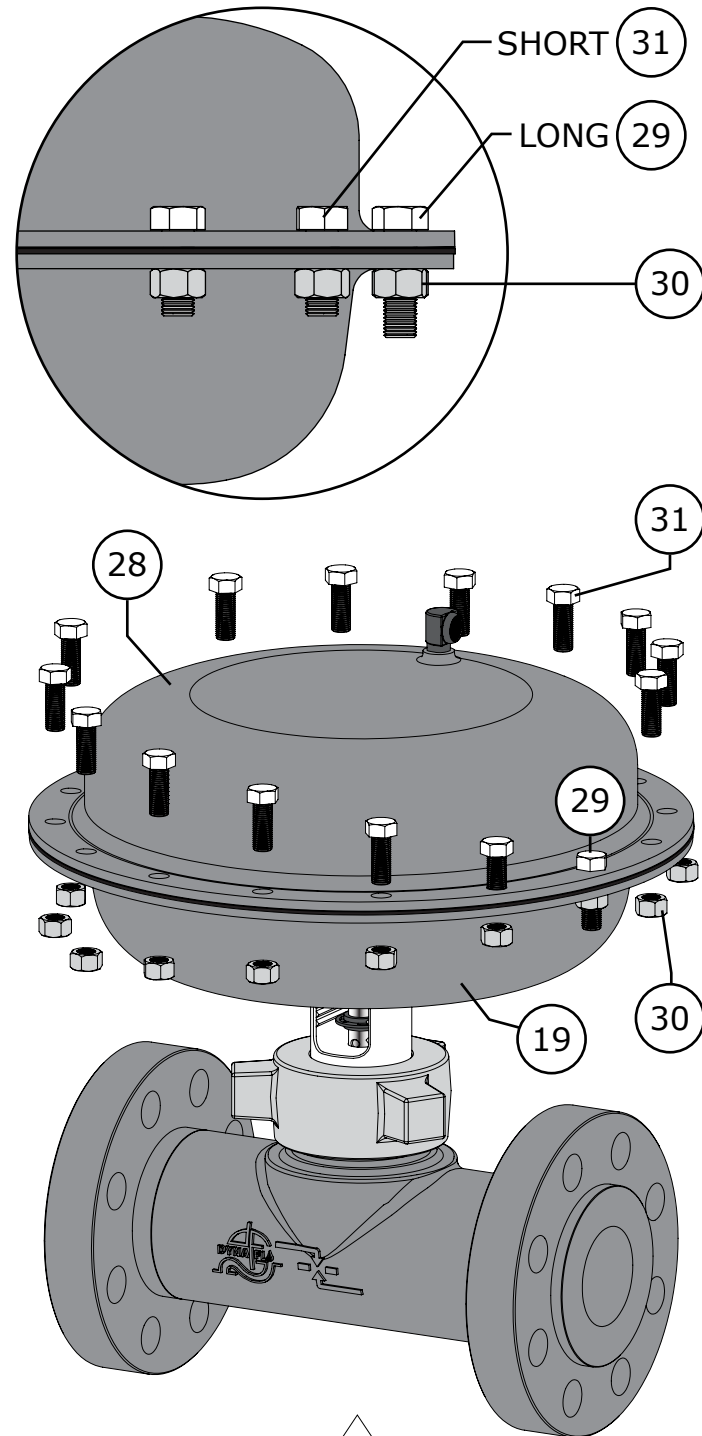

Figure 10 Short Cap Screw Removal (Step 1)
- 1 Remove the 10 **short** (1") cap screws (Key 31) and nuts (Key 30) from the actuator casings (Key 19 & 28) using two 9/16" wrenches or an impact wrench with a 9/16" socket. Be sure not to remove the 2 **long** (1-1/4") cap screws (Key 29). Refer to Figure 10.